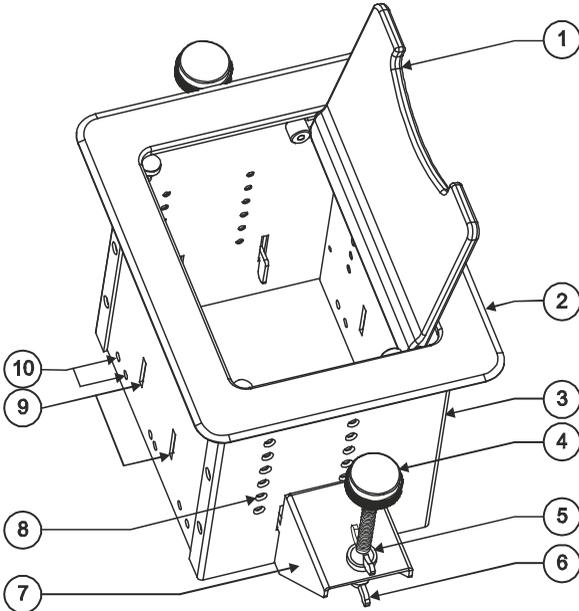

Figure 2: TBUS-3xl Enclosure Top View
3. Take the support brackets under the table and place them into the support bracket grooves on both sides of the unit (see Figure 2, item 7).